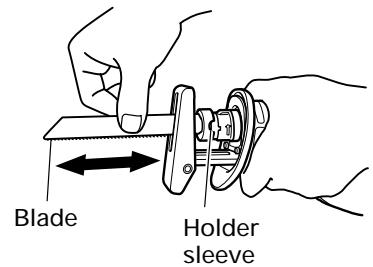

Fig. 10
- (5) Pull the back of the saw blade two or three times by hand and check that the blade is securely mounted. When pulling the blade, you will know it is properly mounted if it clicks and the holder sleeve moves slightly. (Fig. 10)